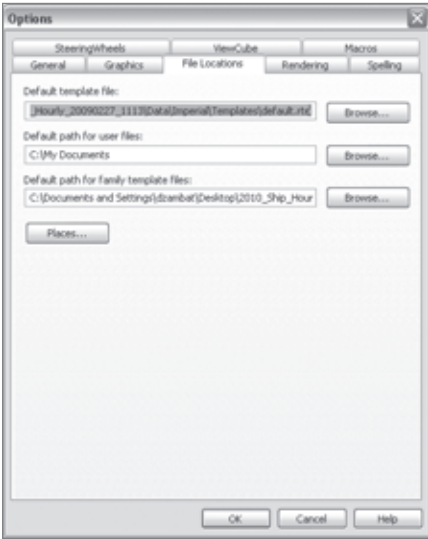

Figure 2.4
**Options button** At the bottom right when opening the Application Menu, you will also find the Options button, which hosts options for project settings (Figure 2.4). Located in various tabs are different settings that you can change to accommodate your decisions about file location selection, rendering path, the SteeringWheel and the View Cube, spelling, and macros, as well as some general settings such as username, intervals for saving reminders, and the application frame display theme.